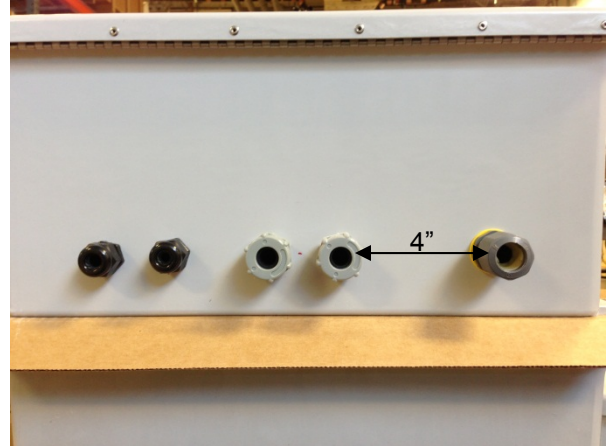

Fig. 4
1. Drill a hole of appropriate size for the input 480VAC power entry cable or conduit (as specified in the project drawings) approximately 4" (10 cm) to the right of the west branch motor cable entry (Fig. 4)